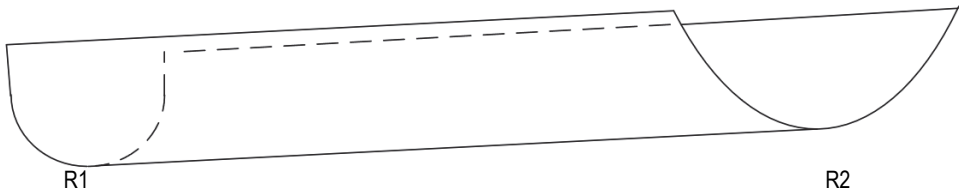

Figure 4-57 R1 and R2 positions
3. If you are using a surface that does not vary along the scan trajectory, you can use the same reference to set the beginning and end of the gate. If the surface varies along the scan line, use positions R1 and R2 (Figure 4-57 on page 149) as references for steps 4. on page 126 to 9. on page 153. In the illustration, the radius of the curvature is smaller at R1 than at R2.
4. Place the probe on the sample at the R1 position as in Figure 4-57 on page 149. If the sample shape does not vary, use any clean position on the sample.